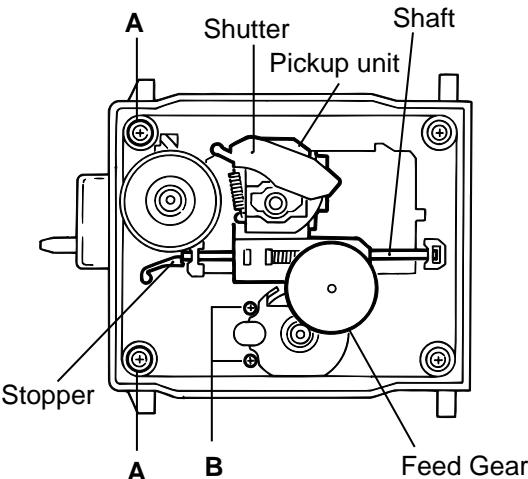
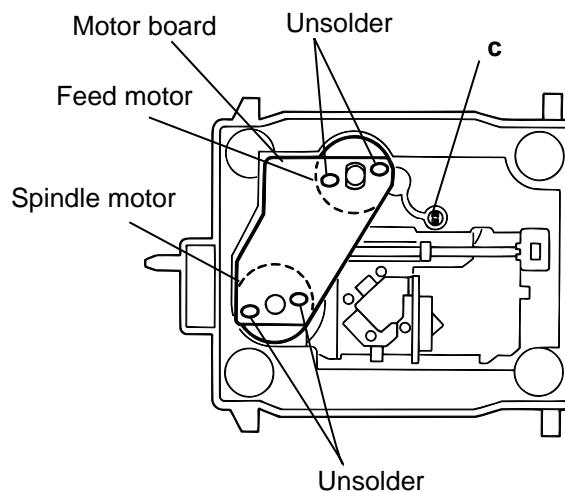

Fig.1
Fig.3
1. Loosen the two screws **A** fixing the chassis.(Fig.1)
2. Removing the feed gear stopper **c** on the bottom of the mechanism and pull out the gear. (Fig.1, Fig.3, Fig.4)
3. Pull out the shaft by opening the pickup shaft stopper outward to unlock.(Fig.1, Fig.2)
4. Removing the pickup unit.(Fig.1)
2. Remove the motor board.(Fig.3)
Remove the two motor fixing screws at **B** and removing the feed motor.(Fig.1, Fig.3)